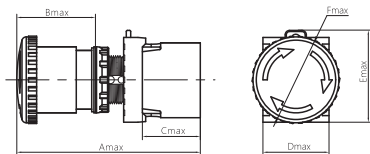

Figure 1 Overall dimensions
1) See Figure 1 and Table 2 for overall dimensions.